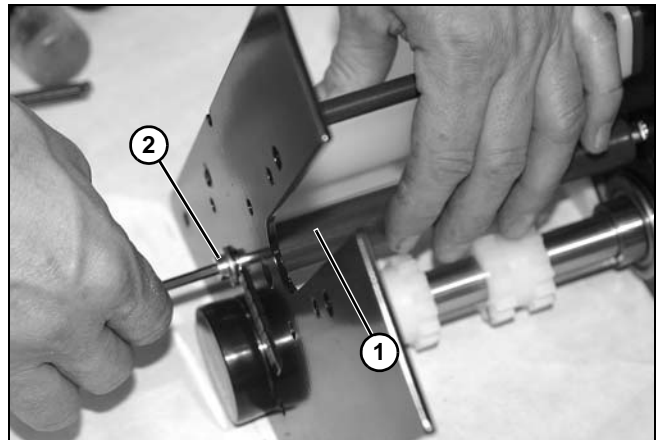

Figure 135
3. Install tension rod (**Figure 135, item 1**) with socket head screw (**Figure 135, item 2**) on each side holding onto power transfer.